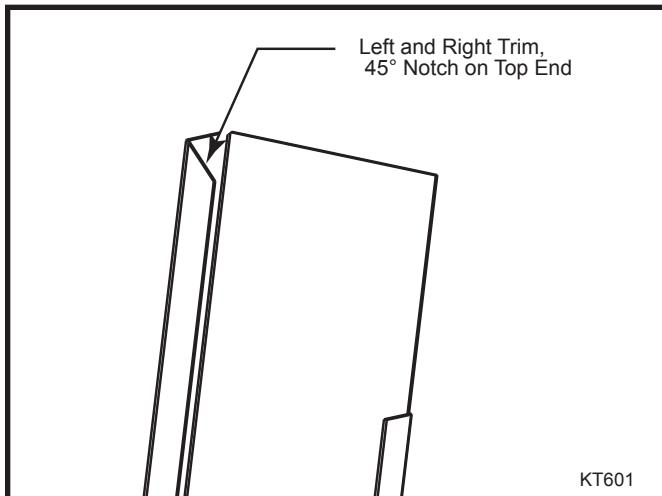

Fig. 53 The right and left trim pieces have a 45° notch on the back corner of the top end when properly installed.
2. The right and left trim piece have a 45° notch on the back corner of the top end. (Fig. 53)